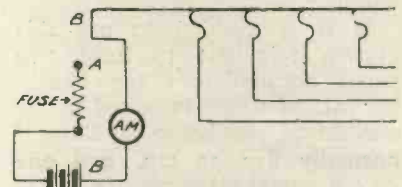

Fig. 3.—Method of charging accumulator from house main, utilising the household lights.
If now we disconnect the connection between the negative terminal (A) and the point B we can insert the accumulator as shown in Fig. 3. We shall thus be making use of the whole of the household lights, the current